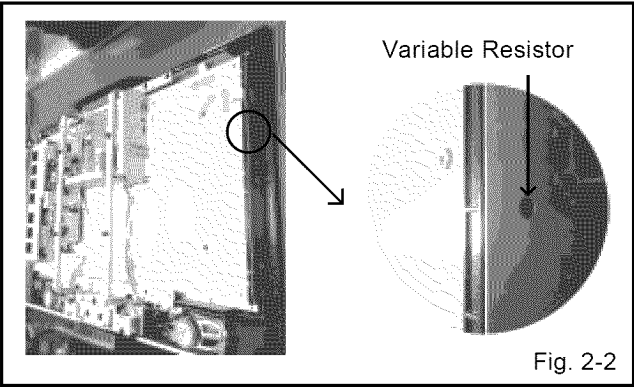

Fig. 2-2
3. Turn Variable Resistor, and adjust it not appear FLICKER (FLASHING). (**Refer to Fig. 2-2**)